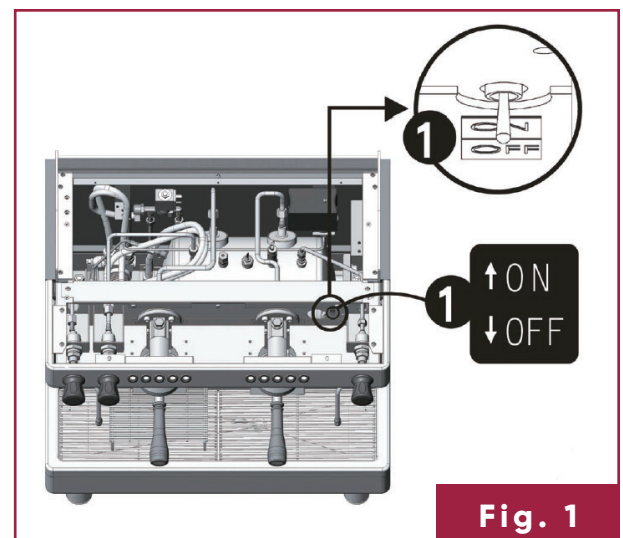

Fig. 1
1. To program your machine, turn the output volume setup switch ON (**Fig. 1**).